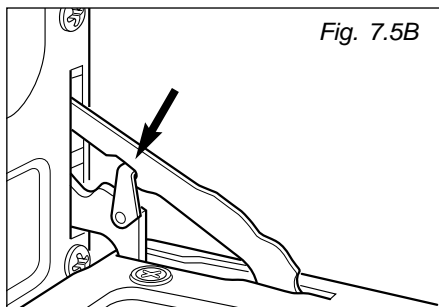

Fig. 7.5B
- Attach the retaining rings to the hooks on the left and right hinges (fig. 7.5B).